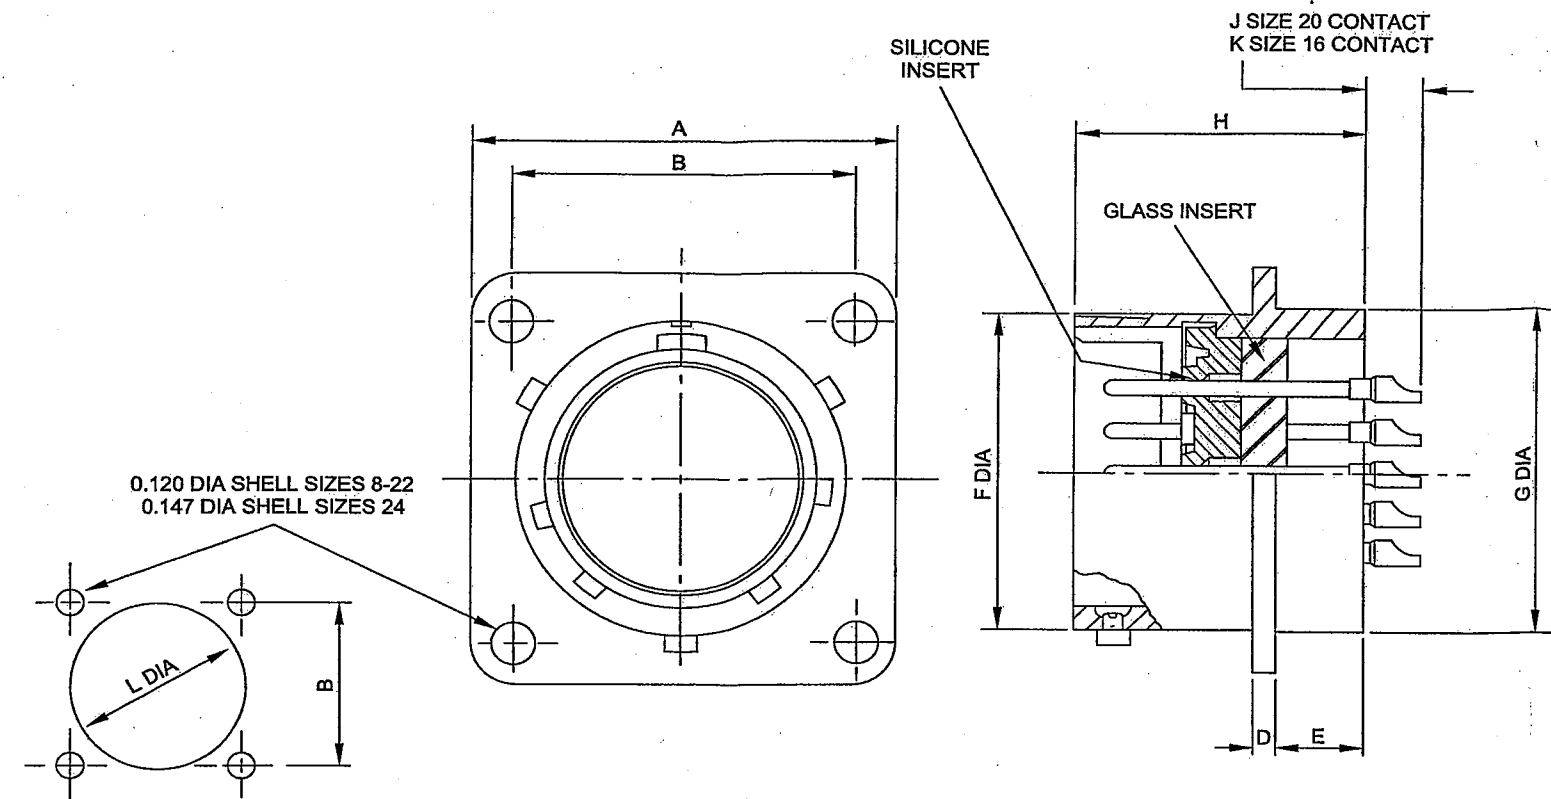

Fig 19 462H Square flange receptacle, dimensions
- 14.1 Details of the 462H square flange receptacle and panel mounting hole dimensions are shown in Fig 19 and Table 11.
- 14.2 Fig 19 shows the receptacle with a pin type insert. Socket type inserts are available with a hard plastic insert mounted to the front of the glass seal.